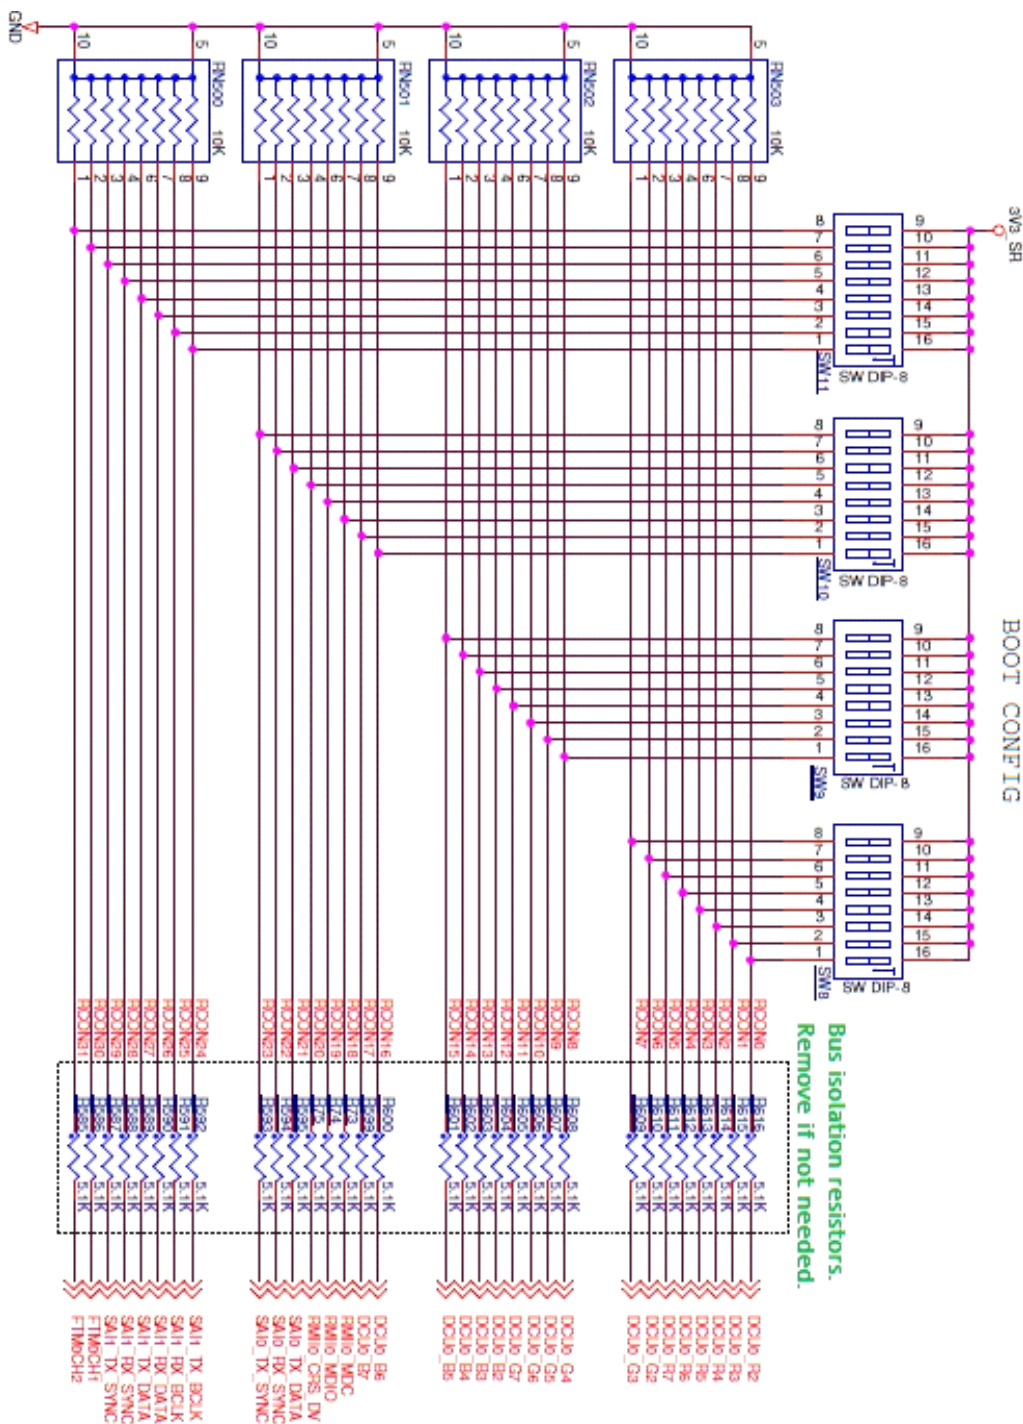
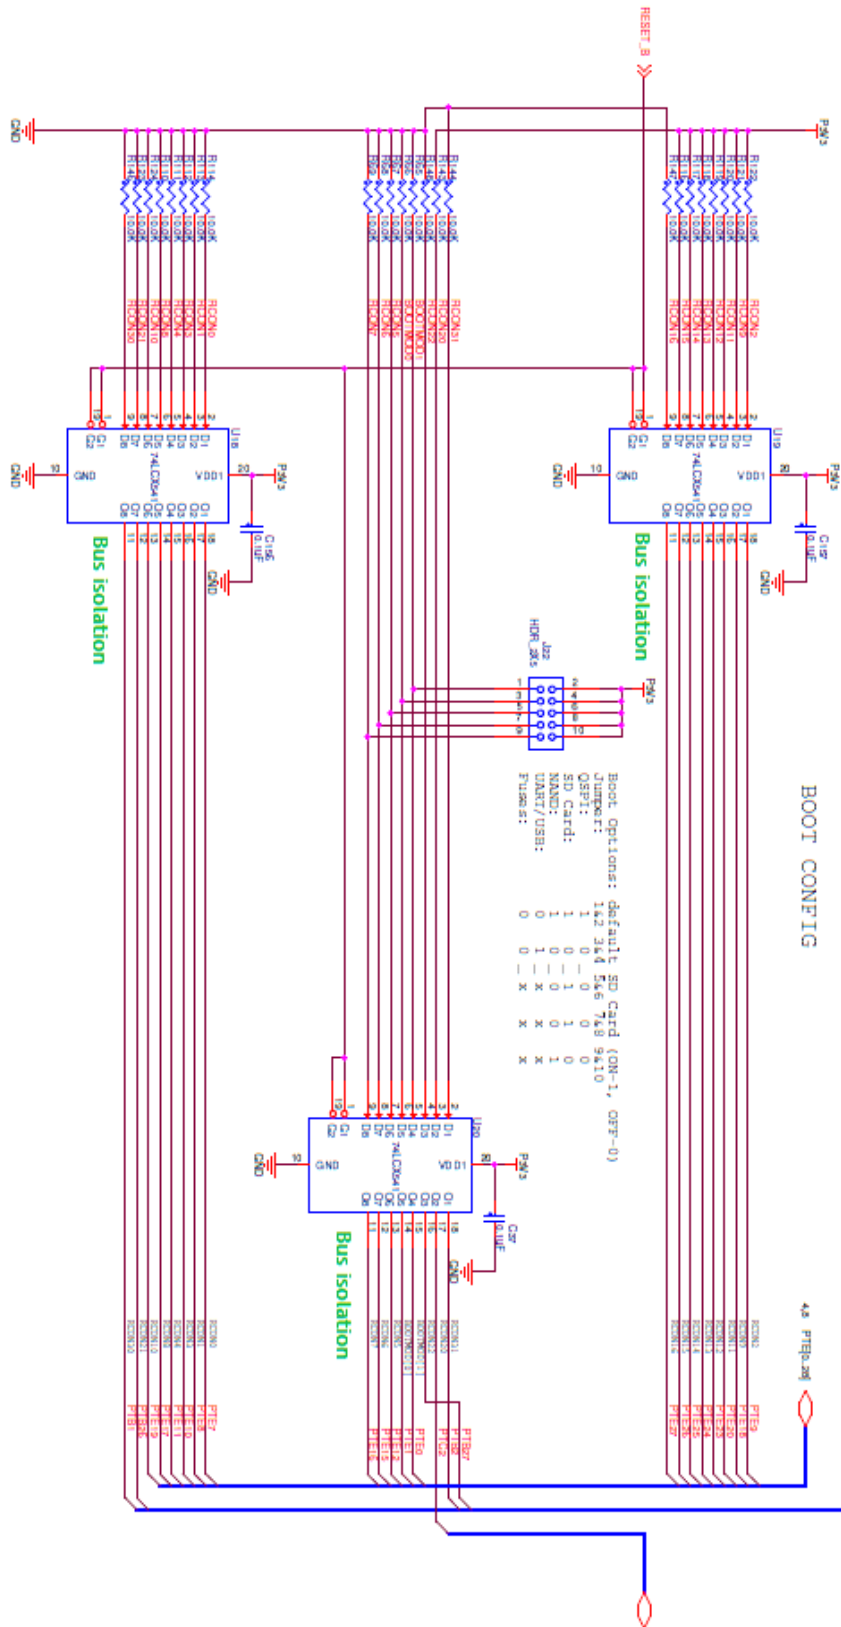

Figure 2. Isolation with series resistors
Figure 3. Isolation with three-state buffers
For the Vybrid I/Os used for both boot-mode function and high-speed peripherals, isolate the boot-mode circuits by inserting either series resistors or three-state buffers.	Depending on design specifics, the Vybrid I/Os bearing DCU signals might be a good example. To keep the trace stubs short and prevent signal integrity issues, place the isolation components as close to the Vybrid I/Os as possible. See schematic examples in Figure 2 and Figure 3 .
- based on series resistors (see Figure 2) – inexpensive but with somewhat compromised performance due to non-zero conductivity of the series resistors
- based on three-state buffers (see Figure 3) – more expensive classic approach with best performance: